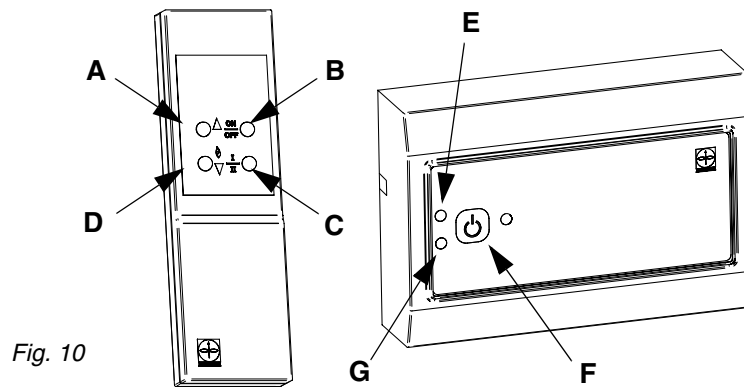

Fig. 10
- Press simultaneously the ON/OFF-button (fig. 10-B) and the Burner start for 1 second (fig. 10-D)
- The operating LED (fig 10-E) will flash GREEN until correct air flow has been confirmed. The operating LED will then turn constant GREEN and the fireplace will get a signal to fire.
- If available, high and low fire can be changed by using the high/low fire button (fig. 10-C). The operating LED will flash once for low fire and twice for high fire.
- The fan speed can be adjusted during operation by activating the fan speed buttons (fig. 10-A/10-D) and at the same time the operating LED will flash. The fan speed cannot be adjusted below the commissioning level.
- To stop the fire and fan press the ON/OFF-button (fig. 10-B).
- For venting purposes press only the ON/OFF-button (fig. 10-B) once. The operating LED will then turn constant YELLOW
- Press the ON/OFF-button (fig. 10-F)
- To stop the fire and fan press the ON/OFF-button (fig. 10-F).
Indication of operating LED (fig. 10-E)	Description
If the alarm LED (fig. 10-G) comes on during operation press the ON/OFF-button twice to stop the fan and restart the control. If the alarm LED is still lit after reset please look at fault finding for help.